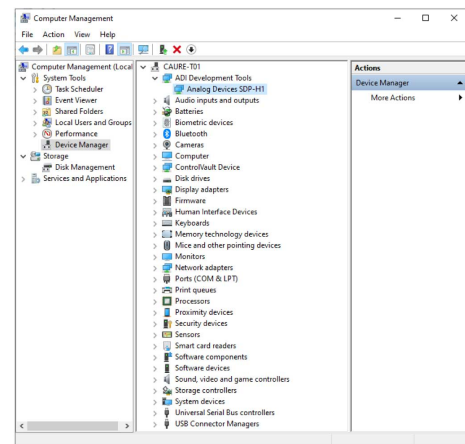

Figure 10. Checking the Evaluation Board is Connected to the PC Correctly
- c. The **Computer Management** window appears. Click **Device Manager** from the list of **System Tools** (see Figure 10).